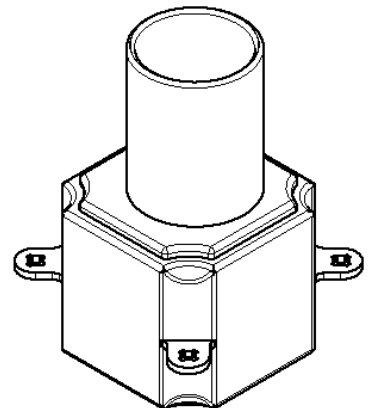

Figure 1 – Modular cube stabilizer
1. The Modular Cube Stabilizers (Figure 1) are meant to be installed in place of a modular cube of the boat lift.